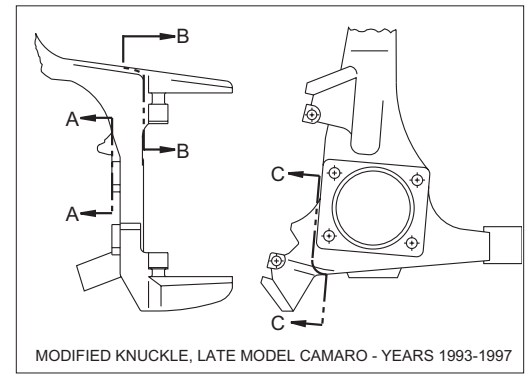
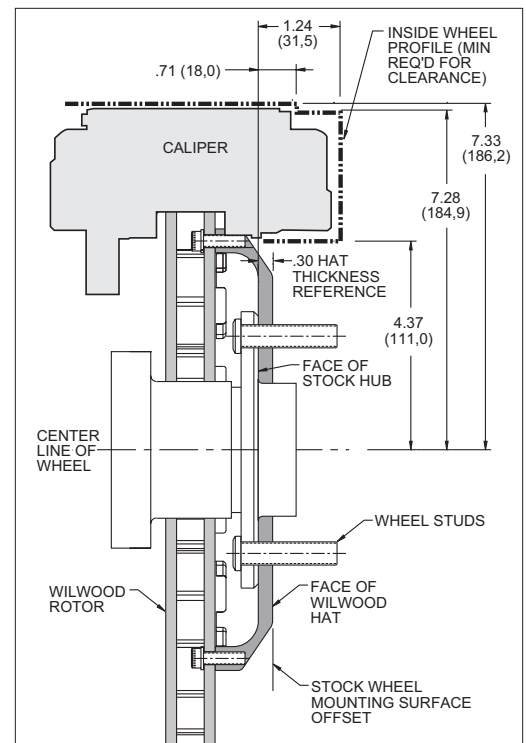
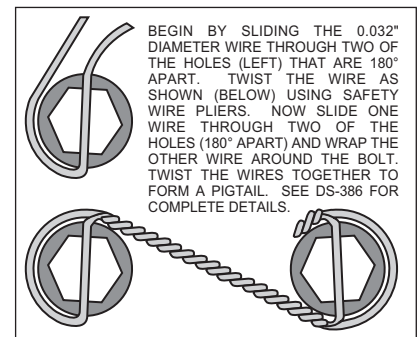

Figure 2. Knuckle Modifications
Figure 3. Wheel Clearance Diagram
Figure 4. Safety Wire Diagram
Before any tear-down or disassembly begins, some modifications are required to the stock steering arm/spindle (Figure 2, page 3). This entails cutting the mounting ears and on some model years cutting away portions of the spindle support to facilitate the mounting of the Wilwood spindle bracket. It is recommended that these modifications be performed by a qualified machine shop. Also, please review the wheel clearance diagram (Figure 3, page 3) to verify that there is adequate clearance with the wheels you will be using with this installation.
- Make sure this is the correct kit to match the exact make and model year of the vehicle's spindle (i.e., brackets for a 1990 Camaro spindle will not fit a 1997 Camaro spindle). On some models of disc brake spindles there are "ears" where the OEM calipers were mounted and these "ears" interfere with the assembly of the Wilwood disc brake kit. See Figure 2 for spindle modification instructions.
- The following knuckle modifications should be performed by a qualified machinist. Refer to Figure 2. Only one view of the steering arm/knuckle is shown, but the modifications need to be performed on both sides.
**Preinstall Verification** Before installation of modified knuckles on vehicle, preinstall the caliper spindle mounting brackets (6) to backside of knuckles to be sure bracket lays flat on mounting surface and clears machined away areas for clearance verifications. If bracket (6) do not fit properly, more machining maybe necessary. Then install knuckle back on vehicle in reverse order of disassembly.
- Mount bracket (6) to the backside of the spindle/hub assembly using bolts (11), lock washer (12) and flat washer (13).
- With the larger I.D. side of the rotor (14) facing away from the hat (15), bolt rotor (14) to hat (15) using washers (16) and bolts (17). Torque bolts (17) to 85 **in-lb**. Safety wire bolts (17) using standard 0.032 inch diameter stainless steel safety wire as shown in Figure 4. Please refer to Wilwood's data sheet DS-386 (available at [www.wilwood.org/ds386.pdf](http://www.wilwood.org/ds386.pdf)) for complete safety wire installation instructions. Slip the rotor (14) and hat (15) combination onto the wheel studs and hold in place with three lugs nuts.
- Apply red *Loctite*® 271 to bolt threads (2) before mounting caliper to the caliper mounting bracket (1). **NOTE:** Be sure the heads of the 7/16-20 bracket (1) insert nuts are facing outward toward the wheel.
- NOTE:** Please reference the caution statement at the beginning of the assembly instructions. With the bleed screws pointing up, mount the caliper (5) to the caliper mounting bracket (1) using bolts (2), lockwasher (3) and flat washer (4). Torque bolts (2) to 47 ft-lb. Mount caliper bracket combination to the spindle bracket (6) using bolts (7) and lock washer (8) while placing a shim washer (9) and spacer (10) between the two brackets (1 and 6). Finger tighten only at this time.
- View the rotor (14) through the top opening of the caliper (5). The rotor (14) should be aligned in the center of the caliper (5). If not, adjust the caliper (5) by using 0.032 inch thick shims (9) placed between the caliper mounting bracket (1) and the spindle bracket (6). Finger tighten and recheck alignment. Apply red *Loctite*® 271 to bolt threads (11) and torque to 47 ft-lb. Safety wire caliper bolts (2), see Figure 4.
- Remove the bridge bolt from the caliper (5) and install the disc brake pads (17). Reinstall the caliper bridge bolt.